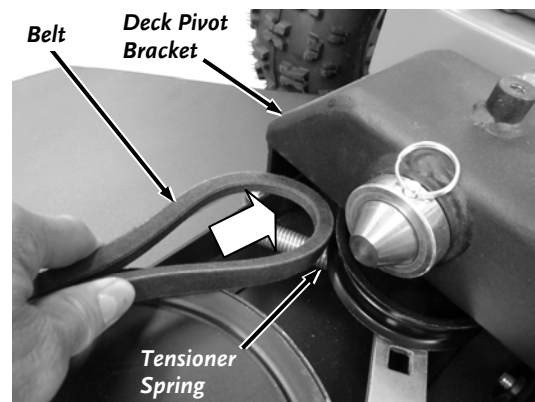

Figure 41
5. To install a new Belt insert the belt over the Tensioner Spring and through the inside of the Deck Pivot Bracket (*Figure 41*).